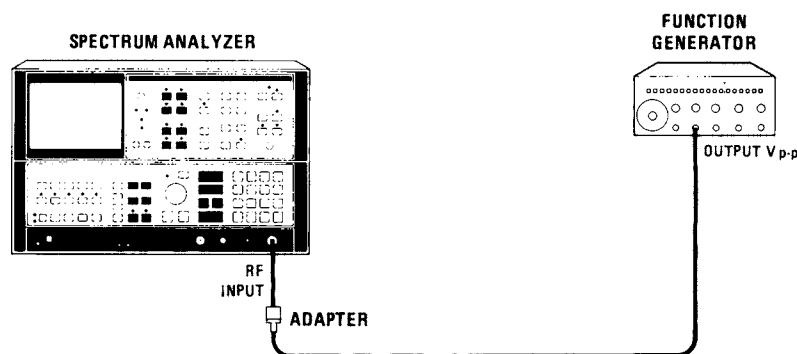

Figure 4-17. Frequency Response Test Setup (100 Hz to 100 kHz)
Equipment listed is for five test setups, Figures 4-17, 4-19, 4-21, 4-23, and 4-25.
3. Press 2-22 GHz on the spectrum analyzer. Connect function generator to analyzer RF INPUT as shown in Figure 4-17.